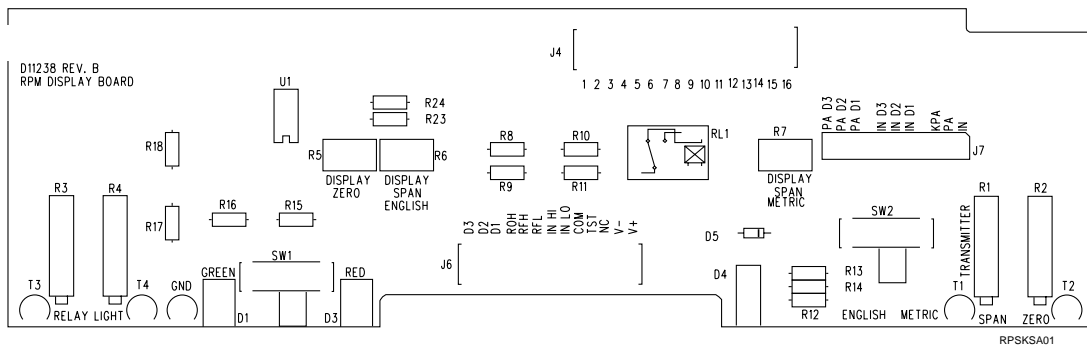

Fig.4 Display board
- Locate the "**ZERO**" potentiometer **R2** and the "**SPAN**" potentiometer **R1** on the display board (refer to Fig. 4).